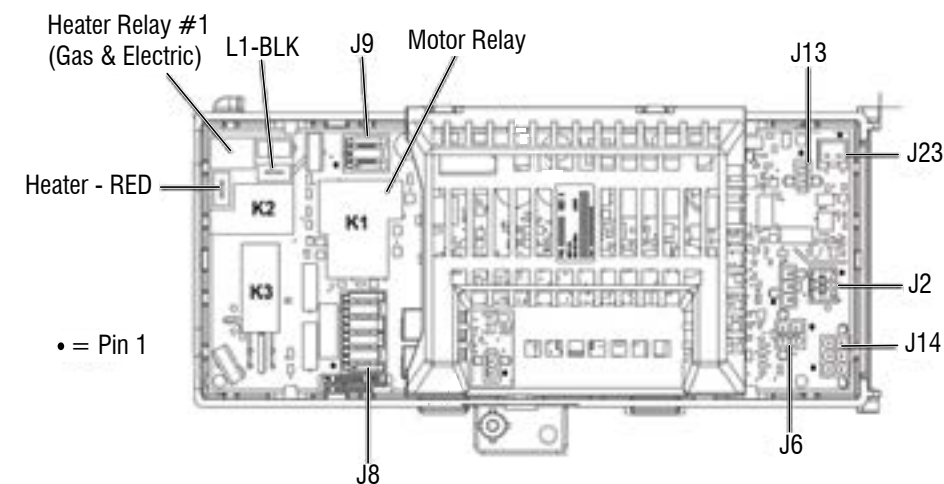
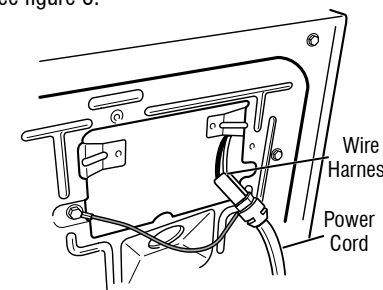
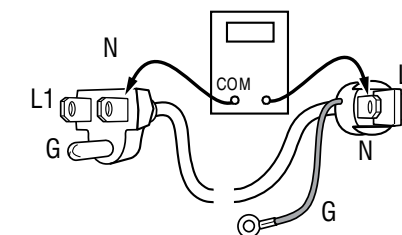

Figure 2 - Main Control (ACU)
Figure 6 - Power cord-to-wire harness connection for gas dryer
Figure 7 - Power cord terminals, gas dryer
- ACU VAC – With voltmeter set to AC, connect black probe to ACU J8-3 (N) and red probe to J9-2 (L1) (see Figure 2).
- Remove the cover plate from the top right corner of the back of the dryer. See figure 6.
- Check that the power cord is firmly connected to the dryer's wire harness. See figure 6.
- With an ohmmeter, check for continuity between the neutral (N) terminal of the plug and J8-3 (white wire) on the ACU. The left-hand side of figure 7 shows the position of the neutral terminal (N) on the power cord plug. Also see Figure 2.
- If there is no continuity, disconnect the white wire of the main harness from the power cord at the location illustrated in figure 6. Test the continuity of the power cord neutral wire as illustrated in figure 7. If an open circuit is found, replace the power cord. Otherwise, go to step 6.
- If there is no continuity, check the continuity of the power cord in a similar way to that illustrated in figure 7, but for power cord's L1 wire.